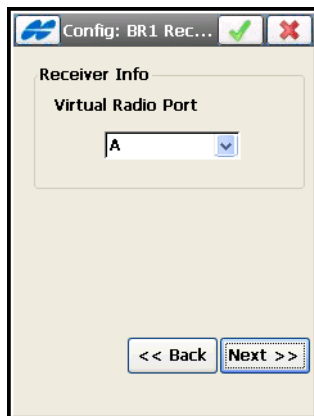

Figure 4-56. Virtual Radio Port
- Select a port from the *Virtual Radio Port* drop-down list, the receiver port on which the receiver will receive the RTCM messages from the controller (Figure 4-56). Tap **Next**.